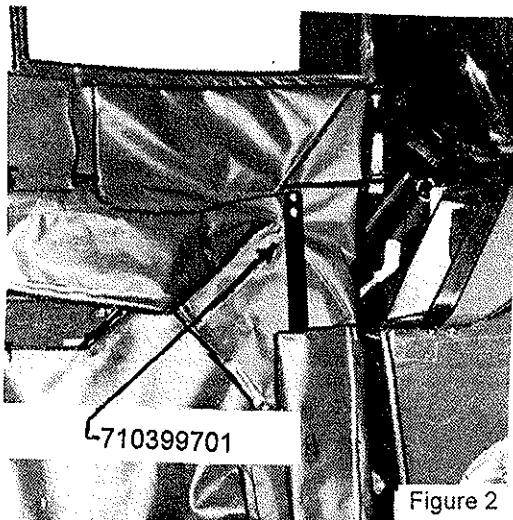

Figure 2
12. Place #710399701 door extension into the pocket on the inside of cover and bolt to door frame using 1/4" x 3/4" hex head bolts and nuts. See Figure 2.